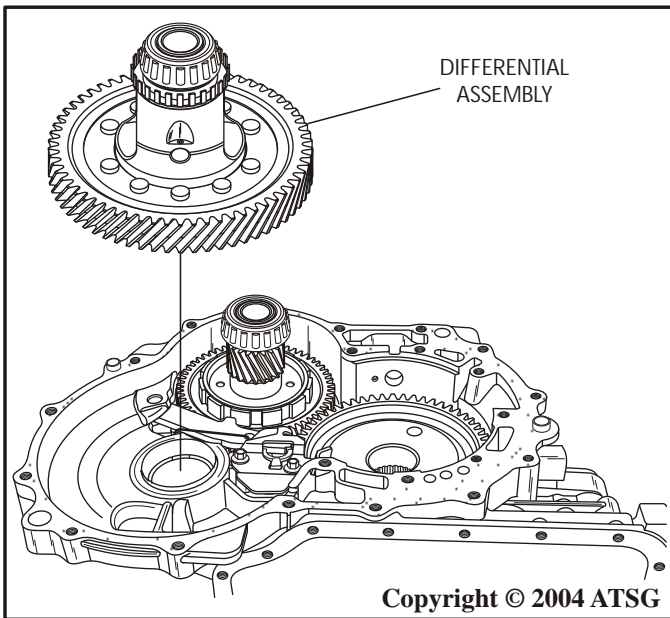

Figure 49
49. Remove the differential assembly, as shown in Figure 49, and set aside for component rebuild.